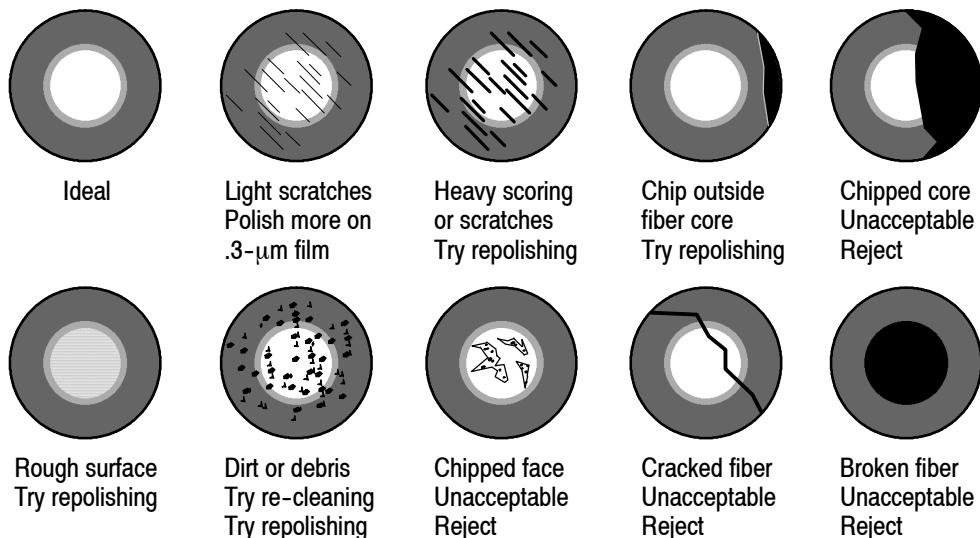

Figure 20
For stainless steel ferrule connectors, remove the circular machine marks on the ferrule tip (from the edge toward the center) until a circle between 0.5 and 0.7 mm [.020 and .028 in.] (still visible) of machine marks remains. This will leave the fiber protruding slightly from the ferrule face as recommended for optimum performance (refer to Figure 20). Other relevant criteria for inspecting the fiber described in Section 6 prevail.
## 6. INSPECTING THE FIBER (See Figure 20)
2. Inspect the connector with the microscope. If possible, place the far end of the fiber near a bright light. Compare the fiber end to Figure 20, and take any recommended action.